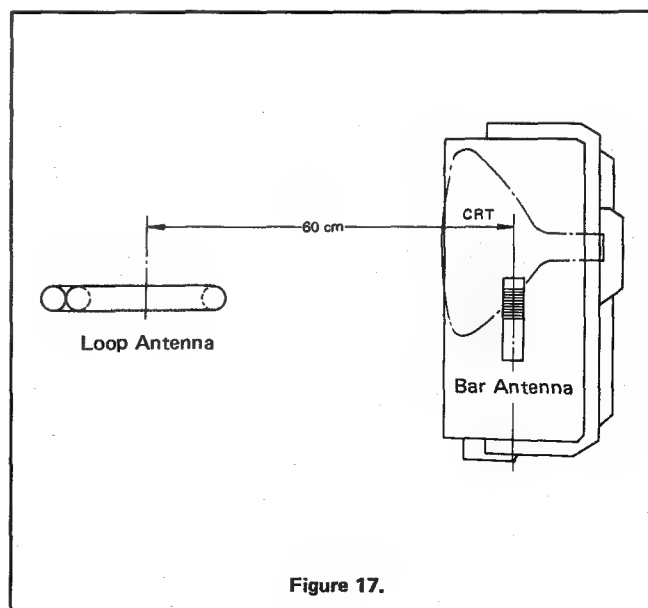

Figure 17.
2. Connect a standard loop antenna to the signal generator and positionally arrange the loop antenna and MW coil of the bar antenna as shown in Fig. 17.
3. Connect a standard loop antenna to the signal generator and positionally arrange the loop antenna and LW coil of the bar antenna as shown in Fig. 17.